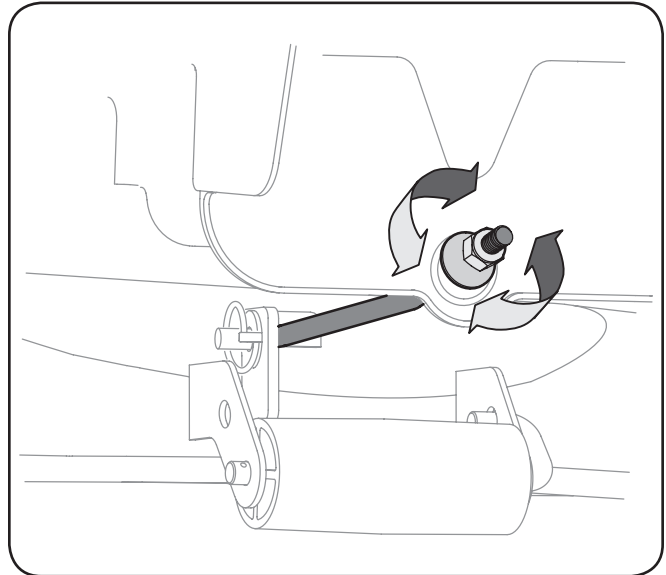

Figure 6-4
- To *lower* the front of the deck, loosen (thread outward) the hex nut, away from the front hanger bracket. See Figure 6-4.